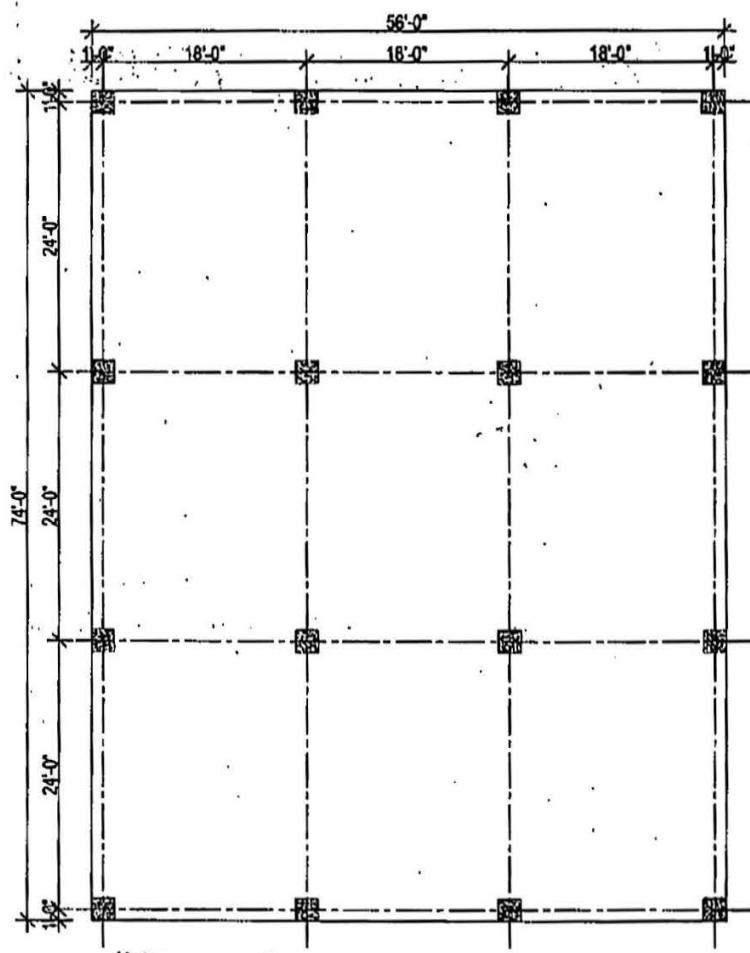

Figure: 2
1. (a) Show, with neat sketches, seismic detailing requirements for two-way slabs without beams in moderate seismic region as per ACI code. (6)
- (b) How could you ensure ductility in RC members? (5)
- (c) A reinforced concrete circular column as shown in Figure 2 (gross diameter = 25 inch) of a building is subjected to following axial loads & moments (unfactored). Determine the necessary main reinforcements for the column. Given: $f_c' = 4 \text{ ksi}$, $f_y = 60 \text{ ksi}$ & interaction diagram is supplied at the end. (12)